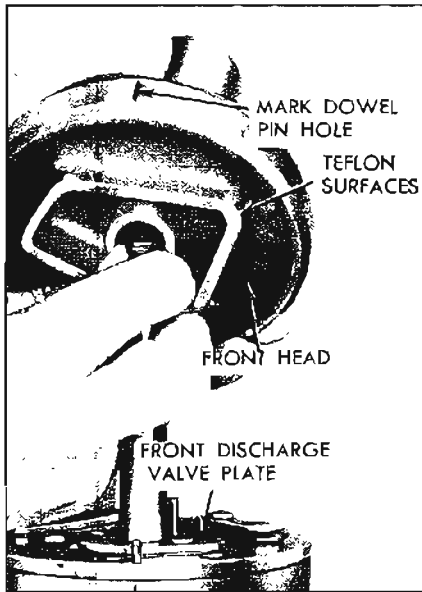

Figure 11-100—Placing Front Head on Cylinder Assembly
45. Coat teflon surfaces on front head (see Figure 11-100) with No. 525 viscosity oil.
46. Mark with pencil on side of front head the location of dowel pin holes (see Figure 11-100), align front head with dowel pins, and tap head lightly with mallet to seat on cylinder assembly.